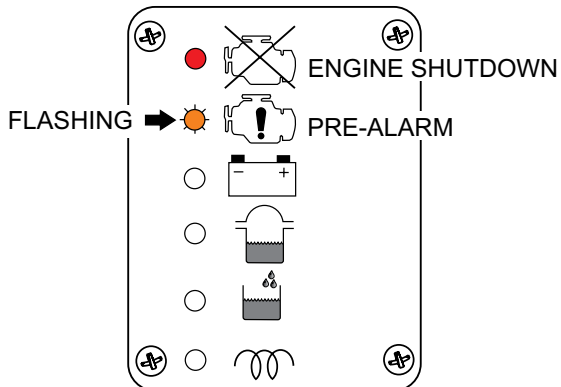

Figure 69. Pre-Alarm LED (Flashing)
5. When diagnostic verification is complete be sure to place the **diagnostic switch** in the **OFF** position (Figure 69). The engine will not start if the diagnostic switch is left in the **ON** position.